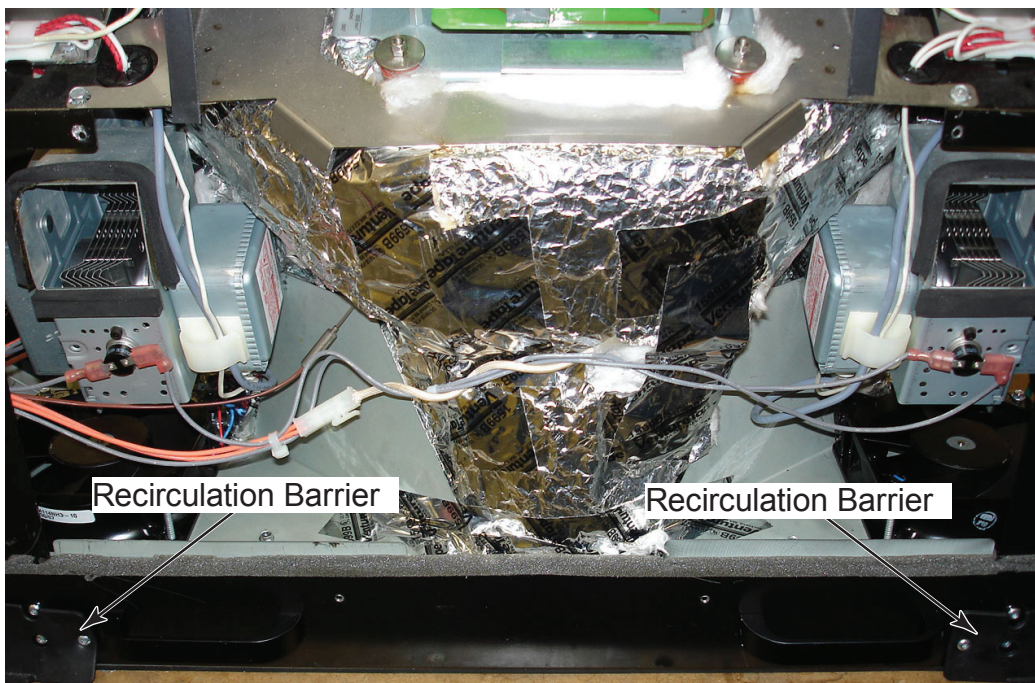

Figure 6
- c) Remove recirculation barriers from the rear of the oven - see figure 6.